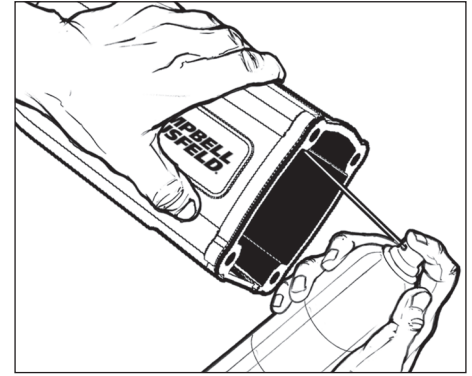

Figure 11
2. With the motor assembly turned upwards, spray a liberal amount of the degreaser cleaner inside the sleeve and combustion chamber (see Figure 11). Let the excess degreaser cleaner, dirt, and debris drain out onto a rag.